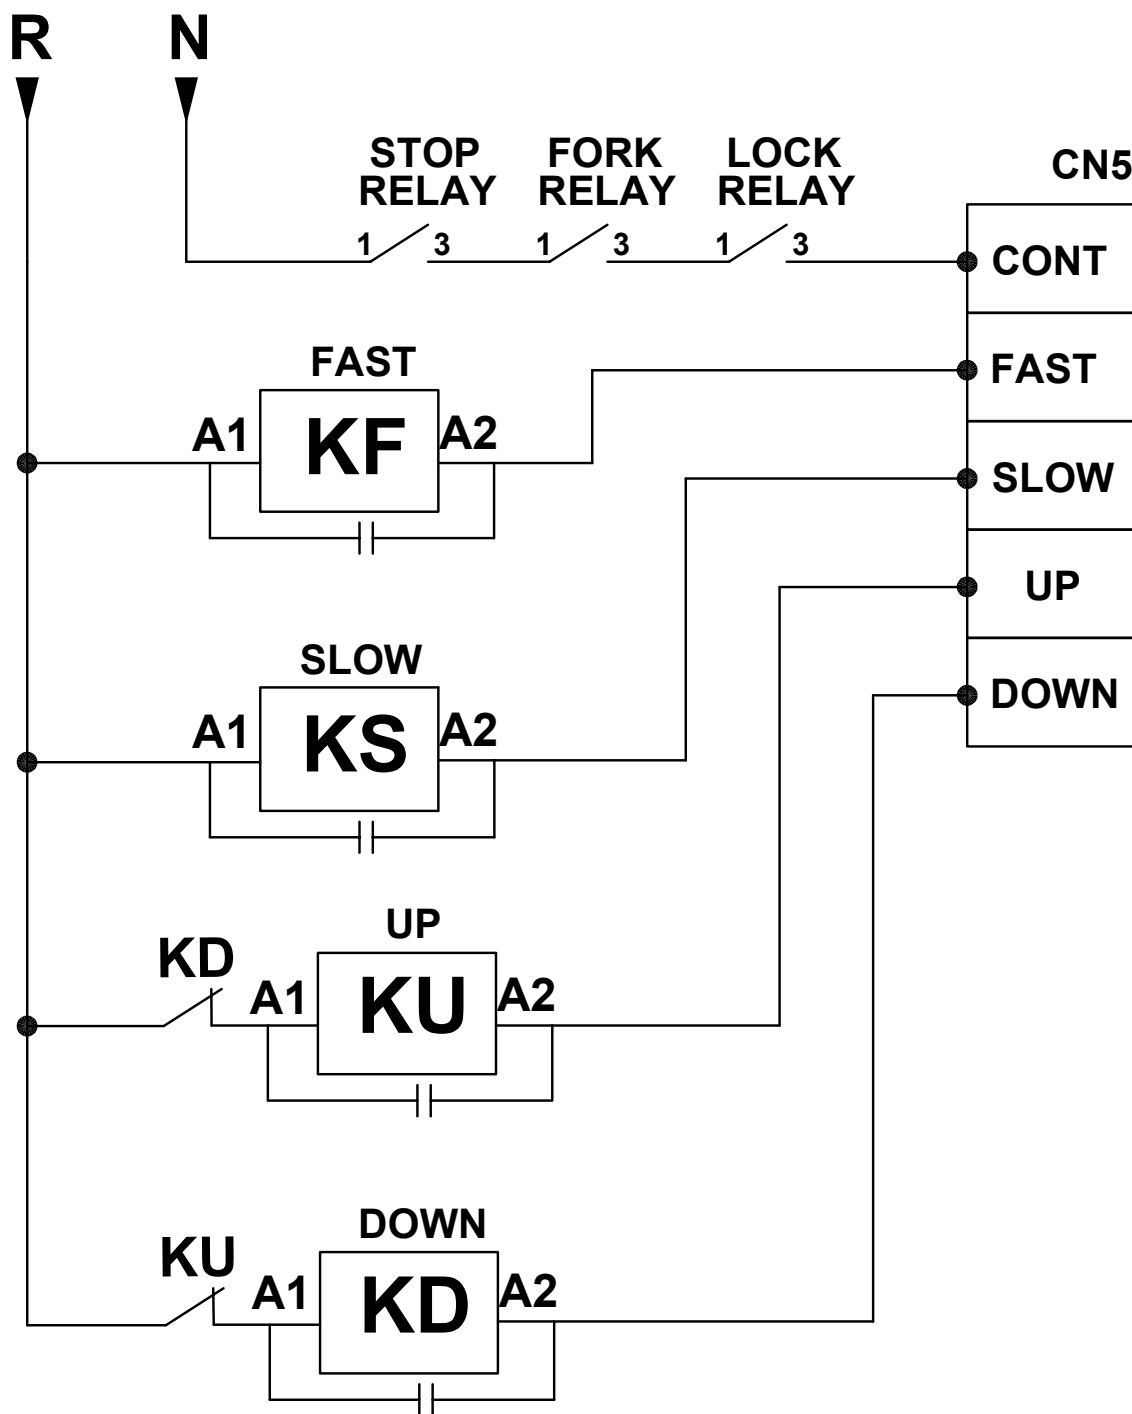

Figure 12.0 - Two-Speed System Connections
The terminals of operating the Two-Speed System with contactors are wired and connected as illustrated in Figure 12.0.
- The motion signal terminal (CN4) is connected as illustrated in Figure 12.0.
- For more safety, there is an external electrical interlock between Up and Down contactors as illustrated in Figure 12.0.